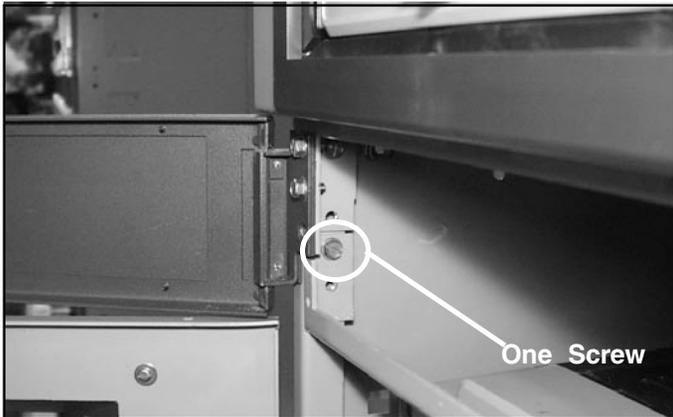
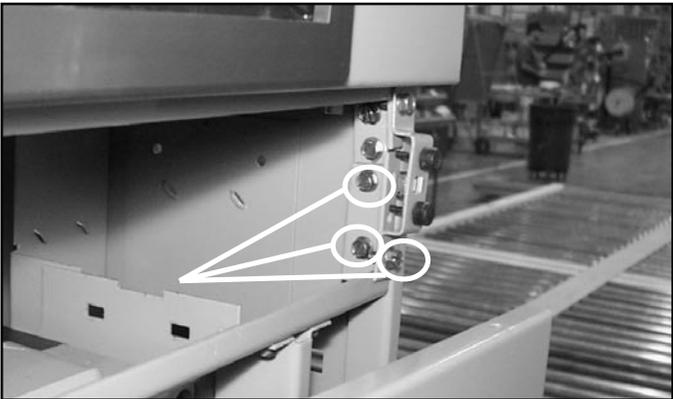
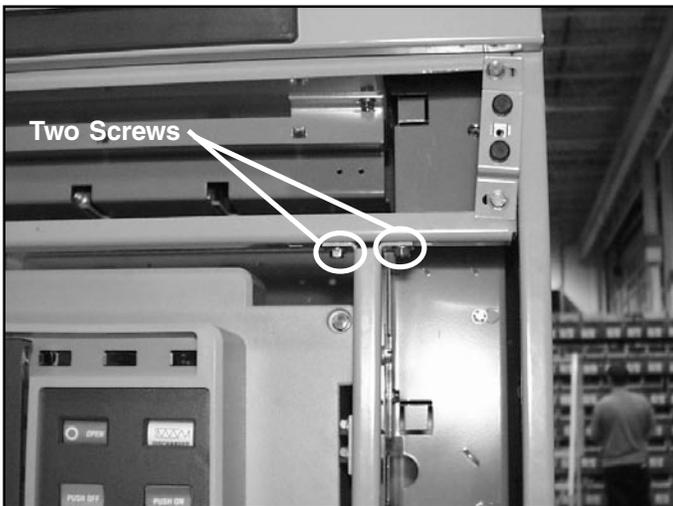

Figure 3-5.7L
Figure 3-5.7R
Figure 3-5.7B
Step 7. Remove the bottom half of the cell divider frame located above the breaker. This is accomplished by first removing the remaining screw on the left side of the cell (Figure 3-5.7L), then removing the three screws on the right side of the cell (Figure 3-5.7R) and removing the two screws attaching the cell divider frame to the post (Figure 3-5.7B).